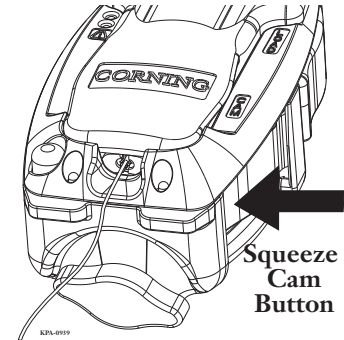

Figure 73 — Press CAM Button
Step 2: Maintain inward pressure, forming a slight bow in the fiber (Figure 73). Press the CAM Button until it locks and a Termination Light illuminates.